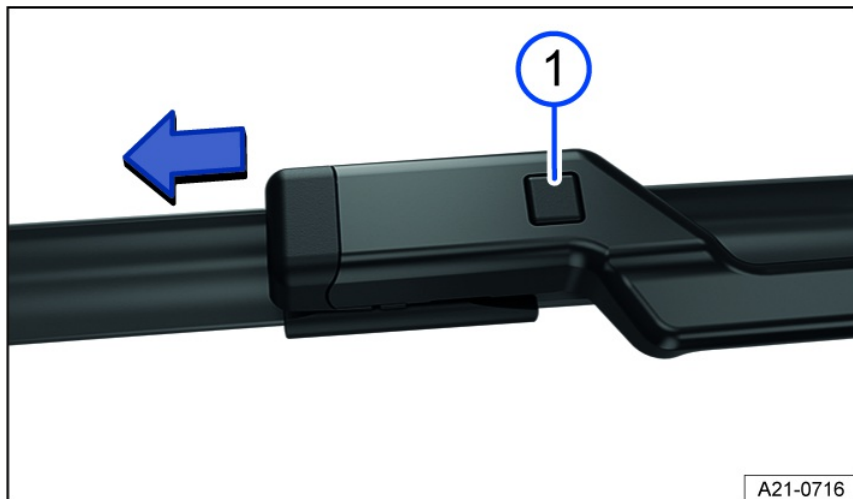

Fig. 172 Changing the windshield wiper blades.
① Unlock button of the wiper blade.
3. Press and hold the release button and remove the wiper blade at the same time in the direction of the arrow *fig. 172* ①.